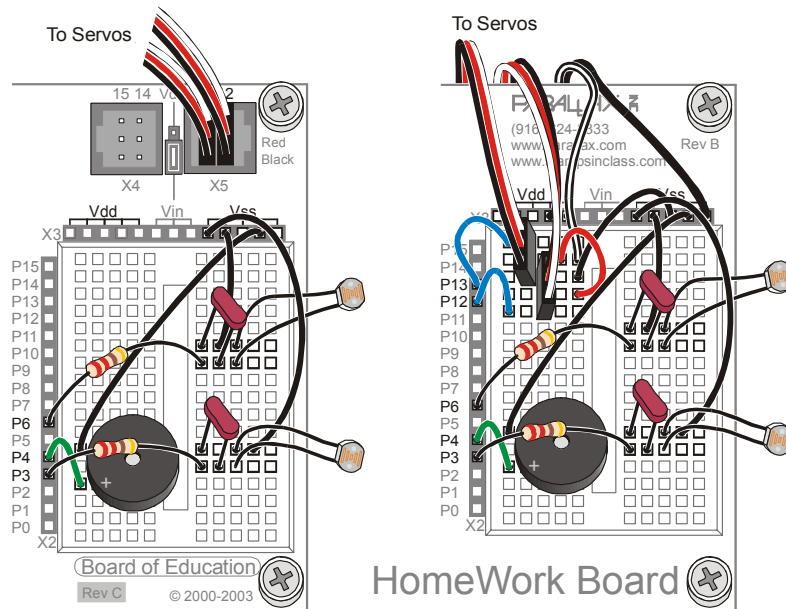

**Figure 6-9**
The circuit the BASIC Stamp can use to determine light levels is called a resistor/capacitor (RC) circuit. Figure 6-8 shows schematics of the Boe-Bot's RC light detection circuits and Figure 6-9 shows examples wiring diagrams for the Board of Education and the HomeWork Board.
- ✓ Build the RC circuits shown in Figure 6-8 using Figure 6-9 as a reference.